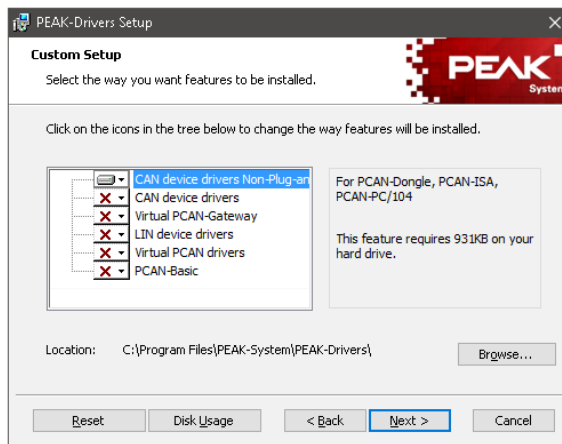

Figure 3: Driver selection in the PEAK-Drivers Setup
5. Deselect the **CAN device drivers** and select **CAN device drivers Non-Plug-and-Play** (see Figure 3).